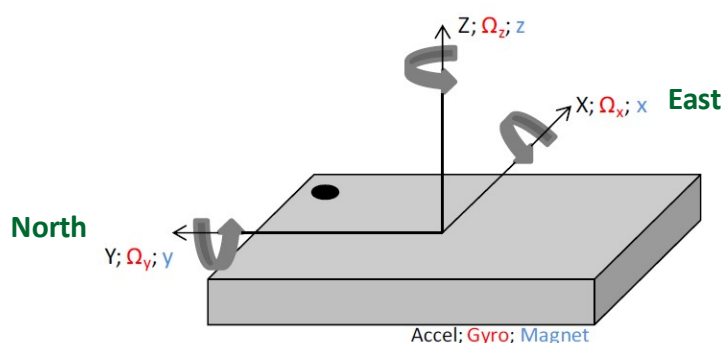

Figure 1 BNO055 coordinate definition
The user can switch between Windows or the Android orientation format. By default however, the sensor axes orientation of the sensor is of Android format as shown in Figure 1. The Android rotation vector definition can be found at http://developer.android.com/guide/topics/sensors/sensors_motion.html
- **Heading: rotation around the Z axis** ($0^\circ \leq \text{heading} < 360^\circ$). 0° = North, 90° = East, 180° = South, 270° = West. The heading value increases when you rotate around the Z axis clockwise from top view of Figure 1.